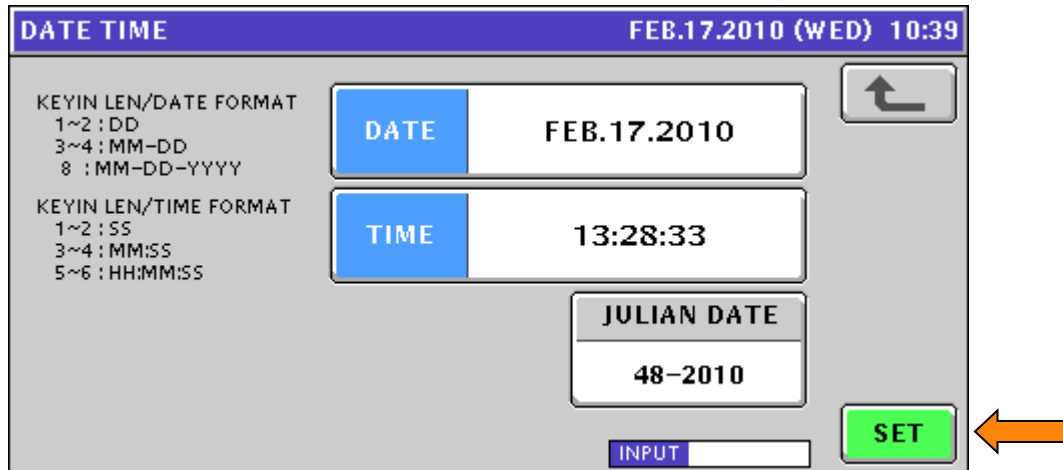

Figure 50. Date and Time
**Note:** The Time is entered in a 24-hour format. See Figure 50.